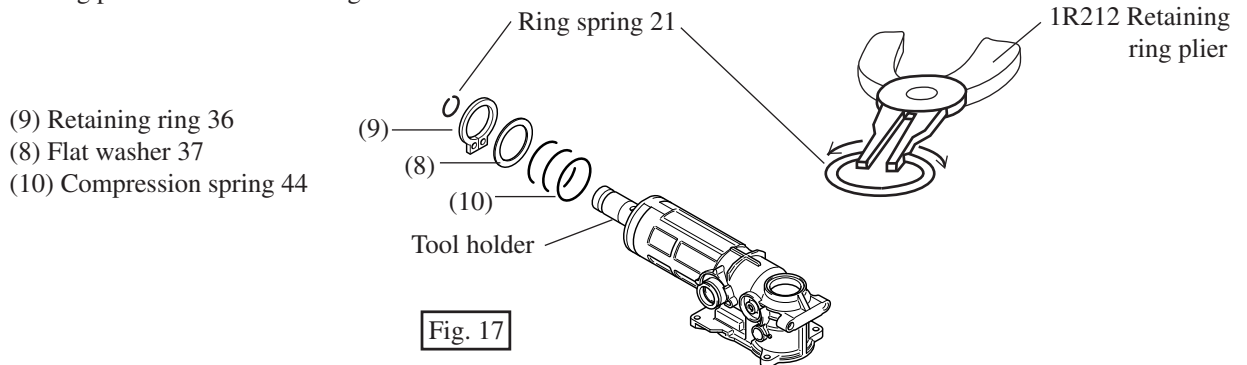

Fig. 17
- (2) Take off ring spring 21 from tool holder, with No. 1R212 "retaining ring plier". And then, disassemble the following parts as illustrated in Fig. 17.